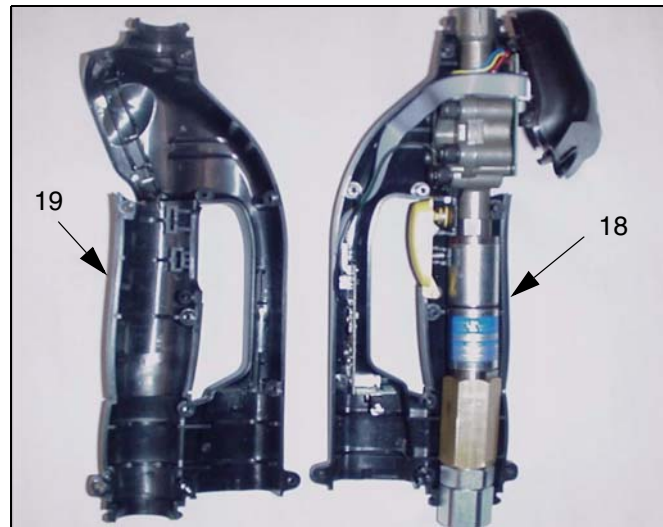

FIG. 25
8. Pull apart the two cover halves leaving all parts in the right cover half (18). See FIG. 25.